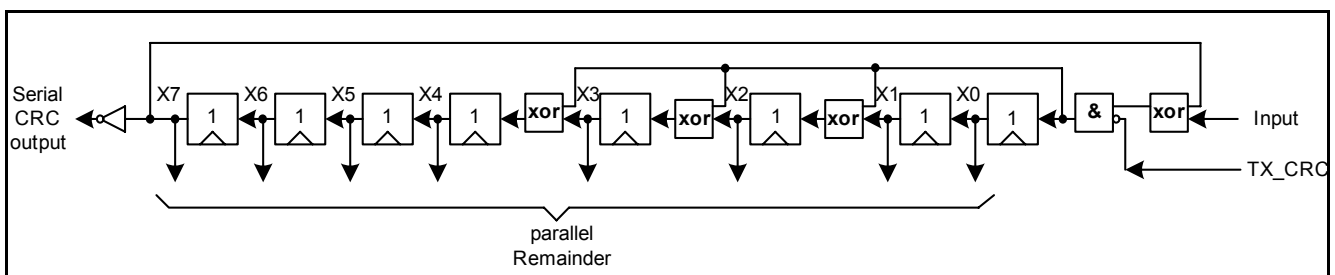

Figure 15 Fast CRC Polynomial Division Circuit
- Generator-Polynomial: $X^8+X^4+X^3+X^2+1$, but for the CRC generation the fast-CRC generation circuit is used (see Figure 15)